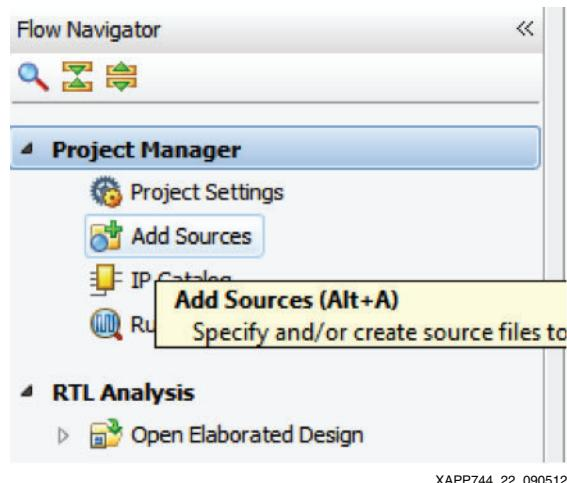

Figure 22: Add Sources
2. Click **Add Sources** (see Figure 22).